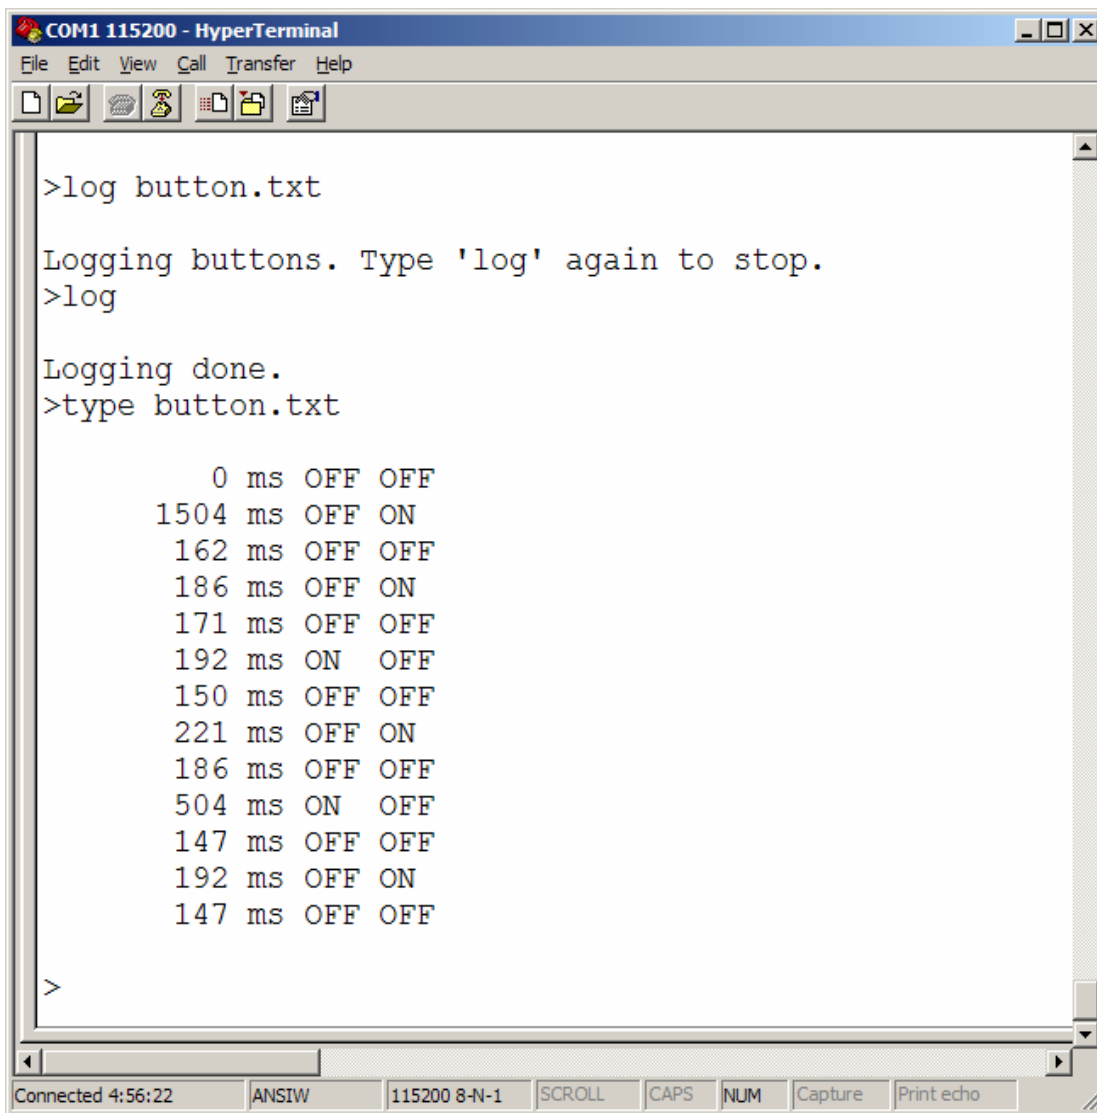

Figure 10. Example Application - Button state logging
2. Continue to use the command interpreter shell to log press/release events for the buttons P2.0 and P2.1 on the C8051F340 target board. Follow the steps below and also refer to Figure 10.